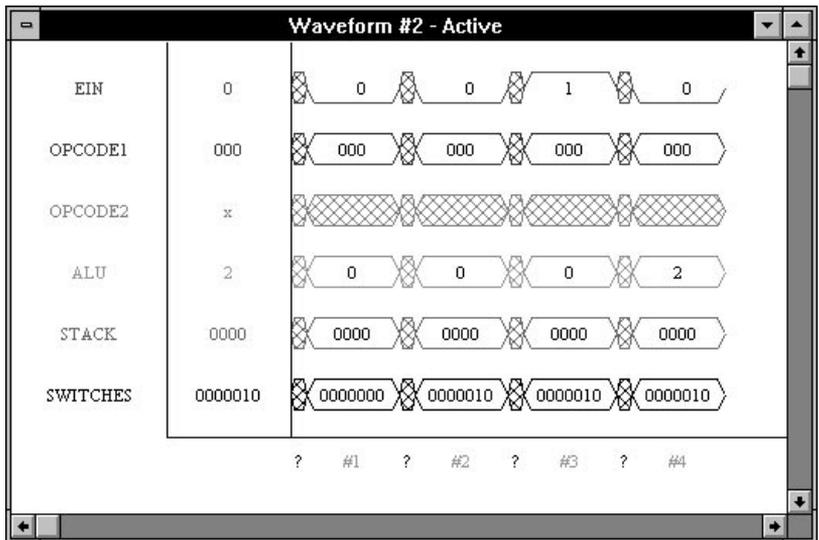

Figure 10-17 Adding and Removing Groups from the Waveform
5. The waveform is updated as shown in Figure 10-17. The DATA group has been removed from the waveform and that OP CODE2 has been added to the waveform. OP CODE2 appears in cross-hatched boxes.